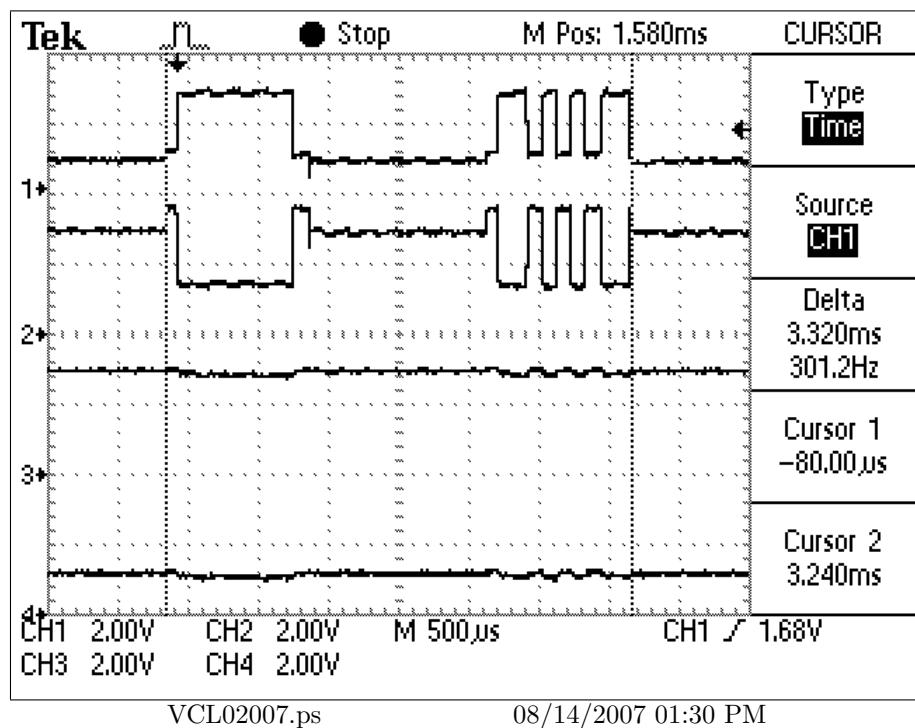

Figure 2: Overall duration of a CW end command [capture2:overalltime]
1. In Figure 2, page 8 is shown a full command of two bytes for having the joy stick being released after it was rotated in a clockwise (CW) direction. Note that two bytes of data were sent and that there was a gap between both bytes.